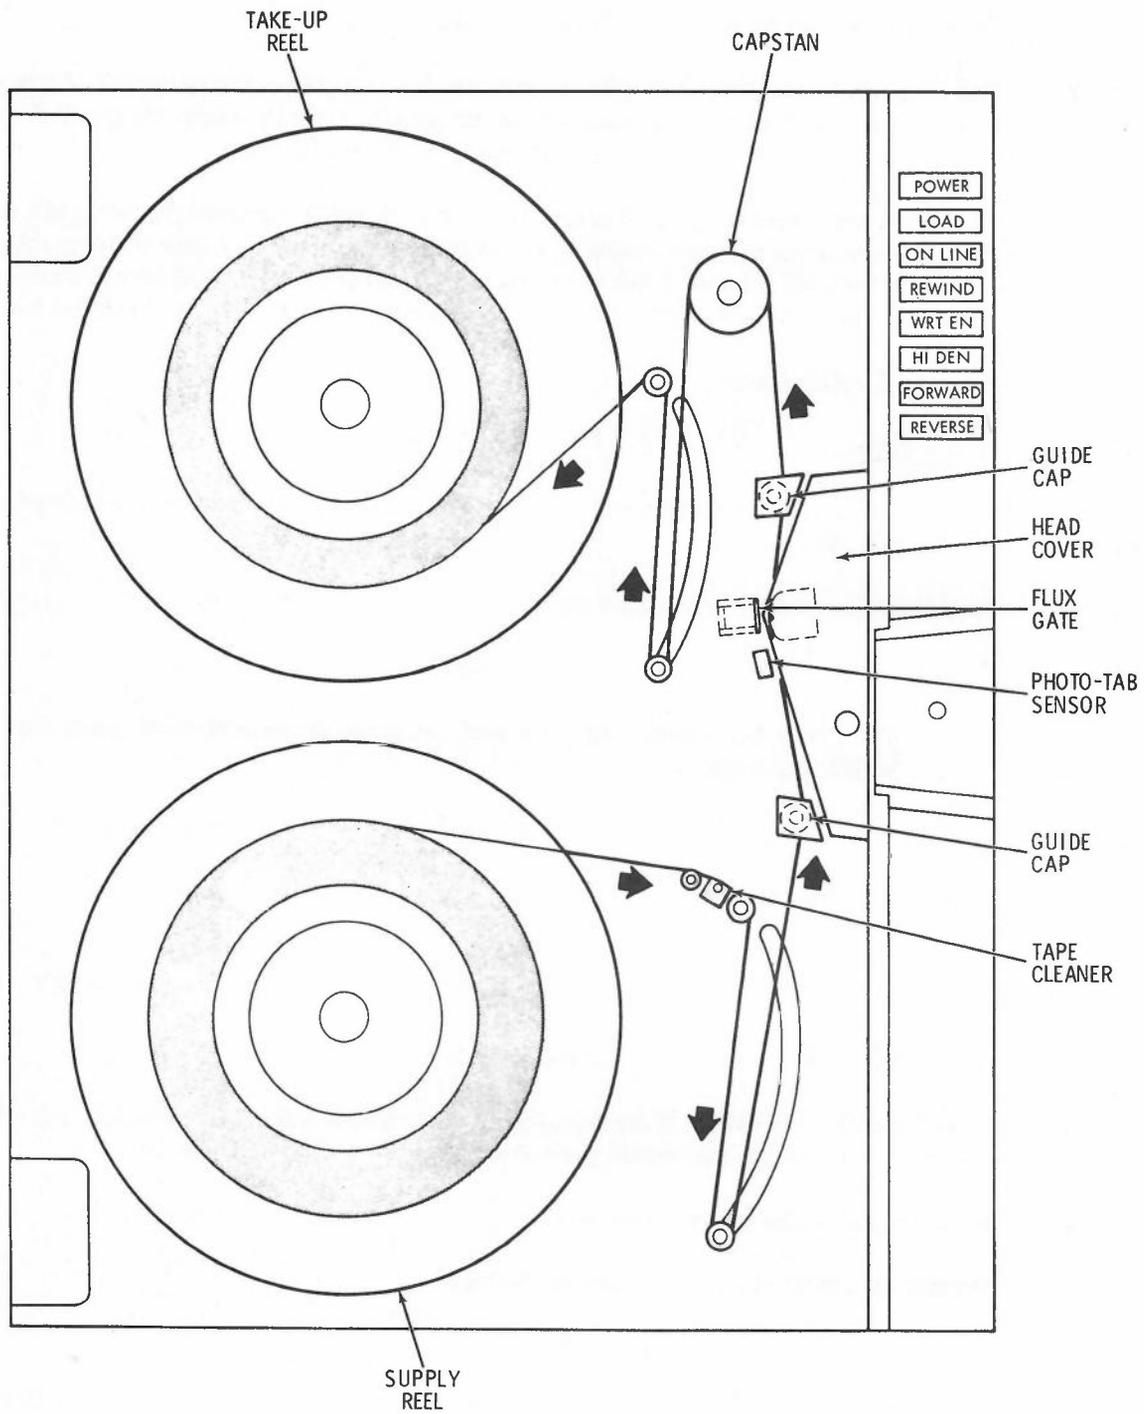

Figure 2-1. Tape Path and Controls.
- c. Thread the tape along the path shown in Figure 2-1. It will be necessary to rotate and hold the flux gate away from the head during tape threading. Wrap the tape leader onto the takeup reel so that the tape will wind onto the reel when it is rotated clockwise. Wind several turns onto the takeup reel, then turn the supply reel counterclockwise until all slack tape has been taken up.